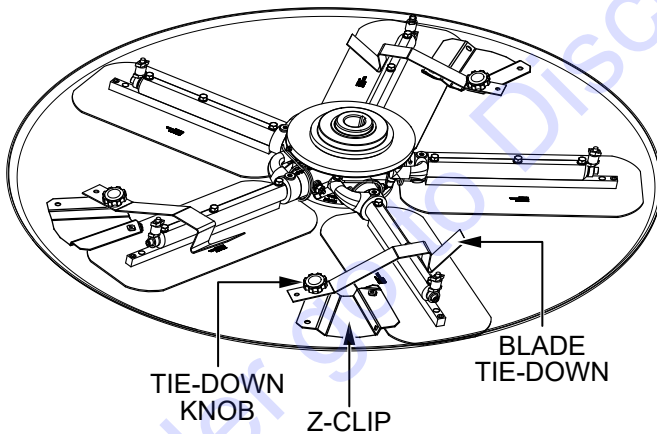

Figure 55. Float Pan Installation (Z-Clips)
3. Attach the blade tie-downs to the far side of the Z-clips using the tie-down knobs as shown in Figure 55.